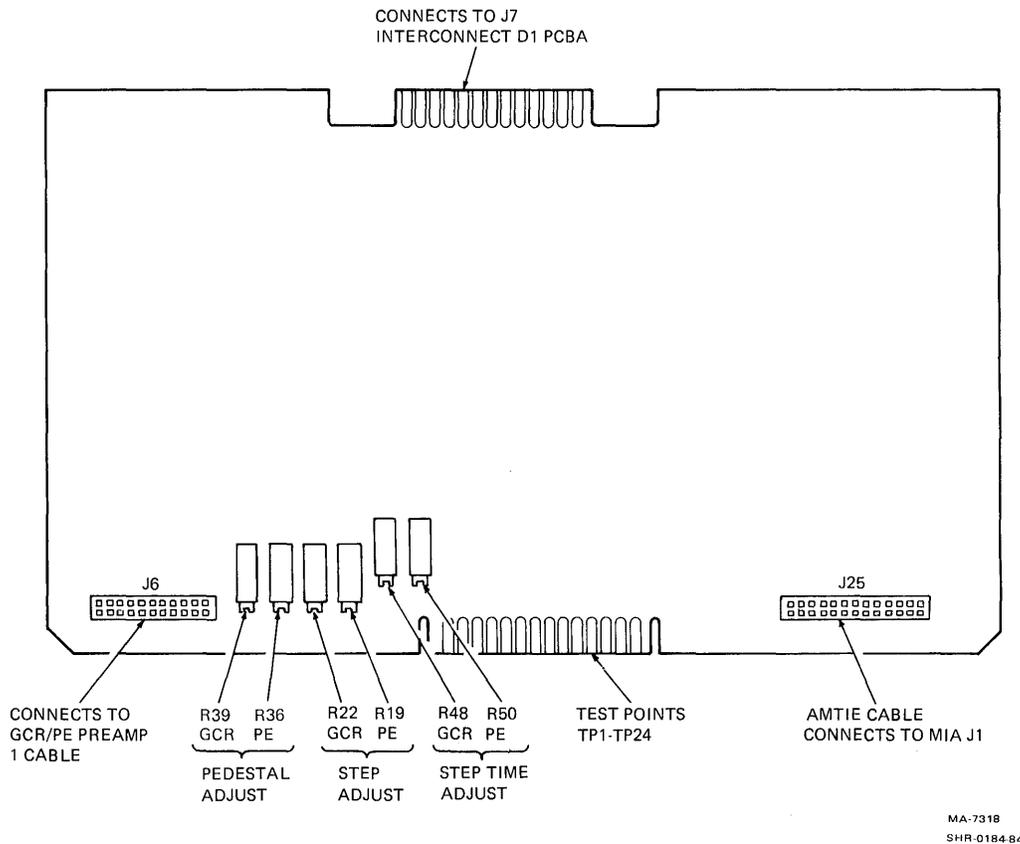

Figure 3-19 Write PCBA Test Points, Adjustments, and Connectors
1. Connect an oscilloscope to write PCBA (Figure 3-19) test point 6. Set the scope as follows.